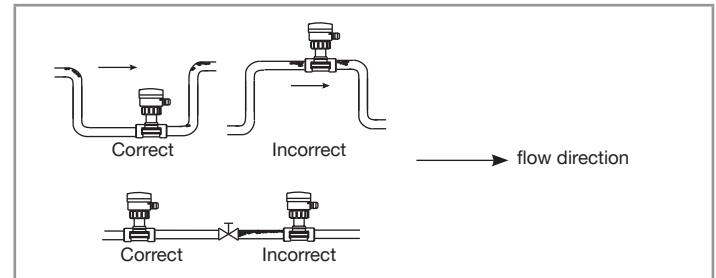

Fig. 7: Air bubbles within the pipe
- Prevent the formation of air bubbles in the pipe in the section around the device (see Fig. 7).